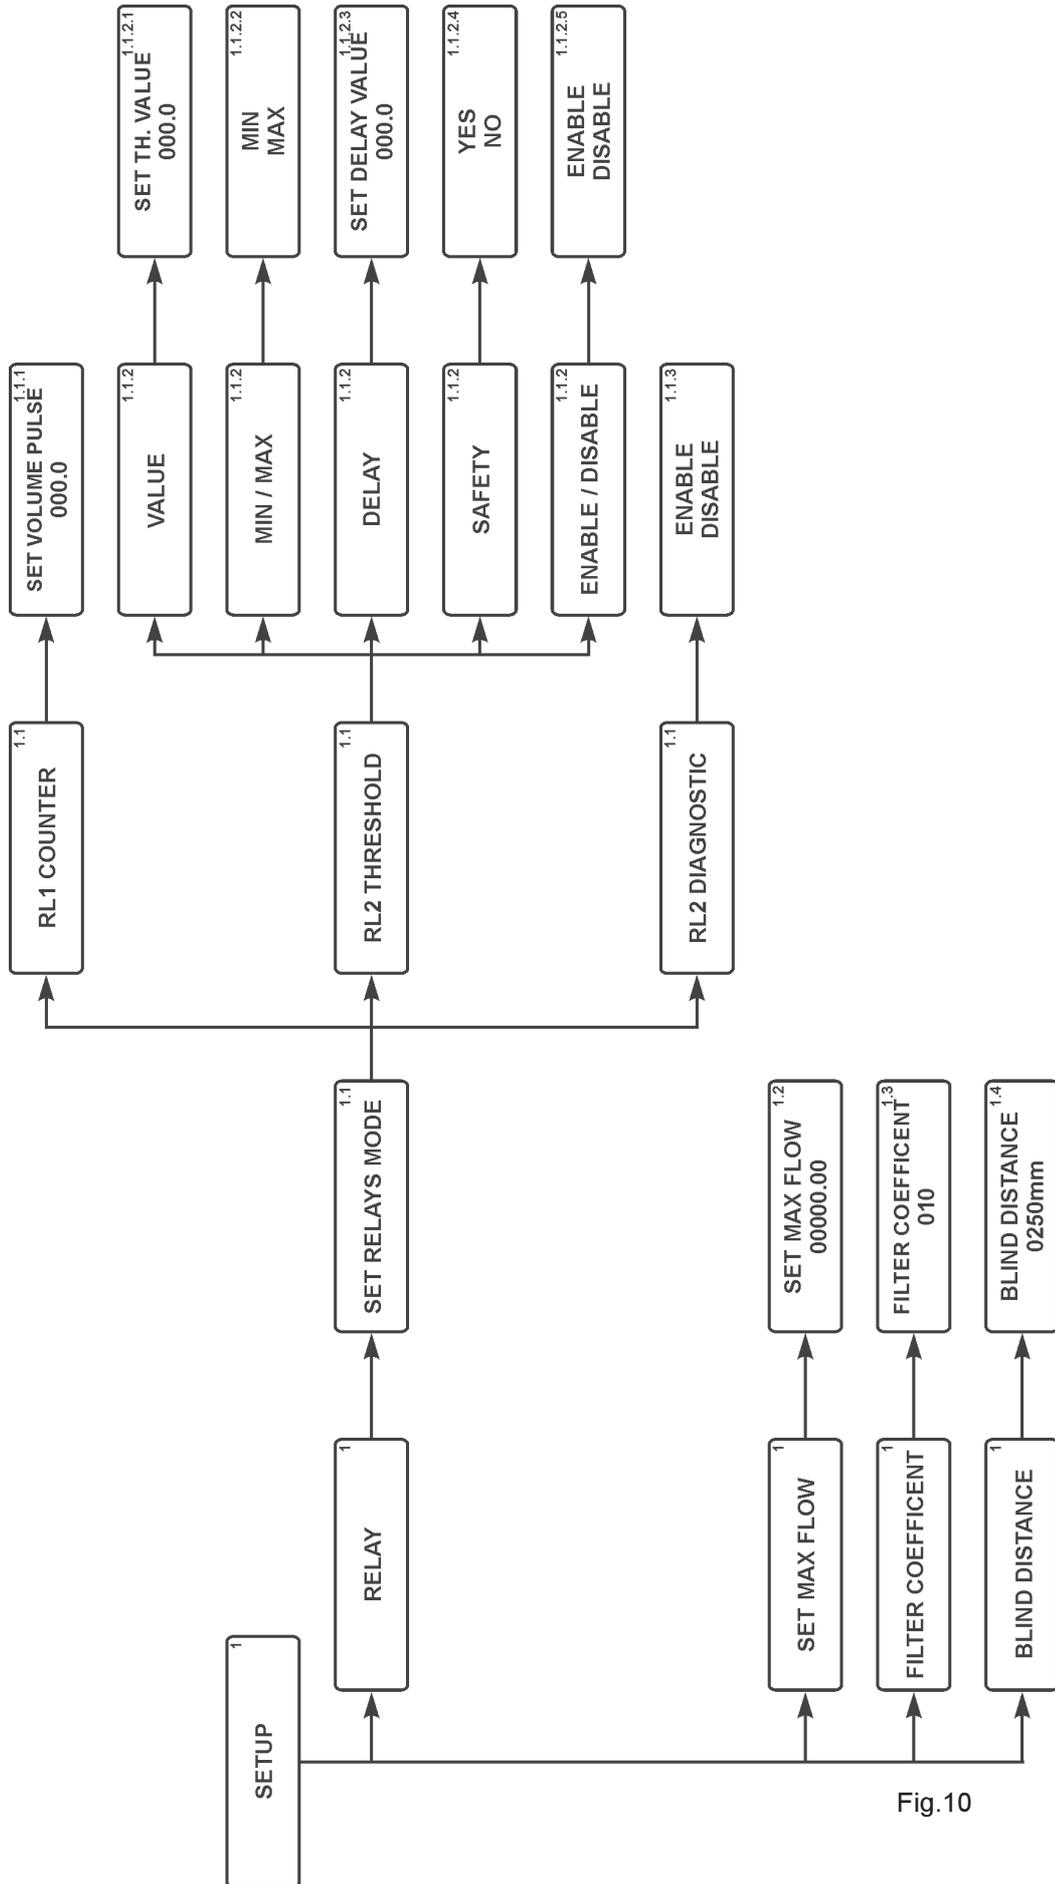

Fig.10
1. **SETUP** - in this menu it's possible to set the basic adjustment of the sensor (fig. 10).